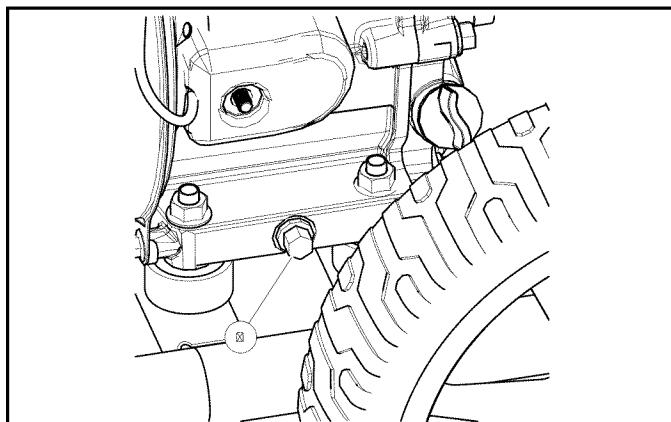

Figure 6-7. Oil Drain Plug
- Clean area around oil drain plug (A) (Figure 6-7). The oil drain plug is located at base of engine, opposite carburetor.